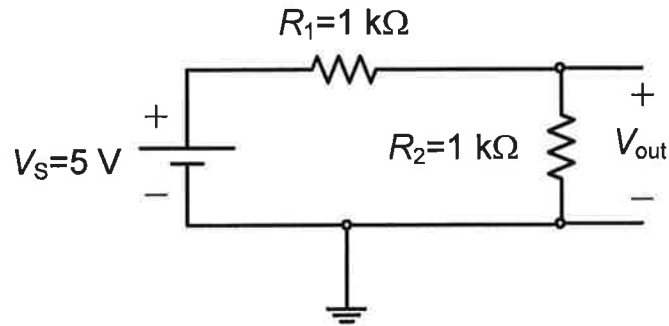

Figure 1(a). The voltage divider circuit.
**1(a)–Lab Experiment:** Construct the circuit shown in Fig. 1(a). Using the handheld DMM in DC mode set to read resistance, measure and record the actual values of the resistors  $R_1$  and  $R_2$  used in your circuit in Table 1. Calculate the % error in each resistor value as follows:
Table 1. Resistor values and percentage errors. (Circuit in Figure 1(a).)
**1(b)–Pre-lab Assignment:** Connect a shunt resistor  $R_{shunt}$  across the  $R_2=1\text{ k}\Omega$  resistance of Fig. 1(a), as shown in Fig. 1(b). Provide simplified general equations for currents  $I_2$  and  $I_{shunt}$  flowing through the resistors  $R_2$  and  $R_{shunt}$  and voltage  $V_{out}$  across  $R_2$  and  $R_{shunt}$  in terms of  $V_S$ ,  $R_1$ ,  $R_2$ , and  $R_{shunt}$ . Using these equations, calculate the values of  $I_2$  and  $I_{shunt}$  flowing through the resistors  $R_2$  and  $R_{shunt}$  and the voltage  $V_{out}$  for three different values of  $R_{shunt}$  resistance which are  $100\ \Omega$ ,  $1\text{ k}\Omega$ , and  $10\text{ k}\Omega$  respectively. Present your calculated current and voltage values in a table as shown in Table 2.
Table 2. Prelab values of  $R_{shunt}$ ,  $I_2$ ,  $I_{shunt}$ , and  $V_{out}$ . (Figure 1(b) circuit).